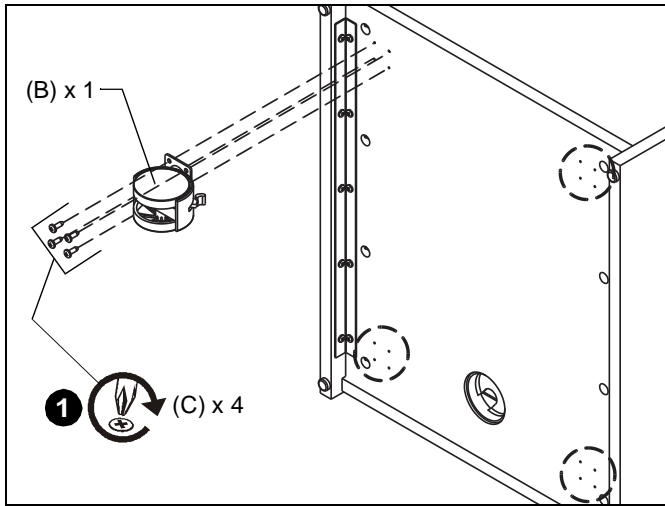

Figure 1
1. Attach one caster (B) into the pre-drilled holes in each lower corner of the rack using four 10-32 x 5/8" Phillips wood screws (C) for each caster. (See Figure 1)